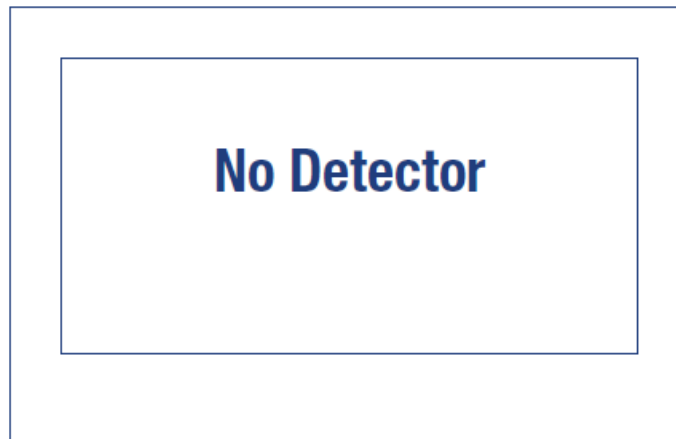

Figure 4 Display in the “Data Mode” with No Detector Connected
- Otherwise the screen indicates that there is no detector connected (Figure 4).